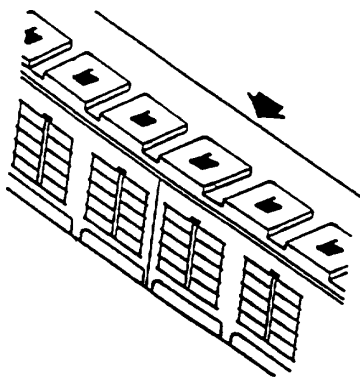

Figure 23. Series II Rail Inspection Holes
b. Visually inspect for block clip retention through the inspection windows on the rail (Figure 23).